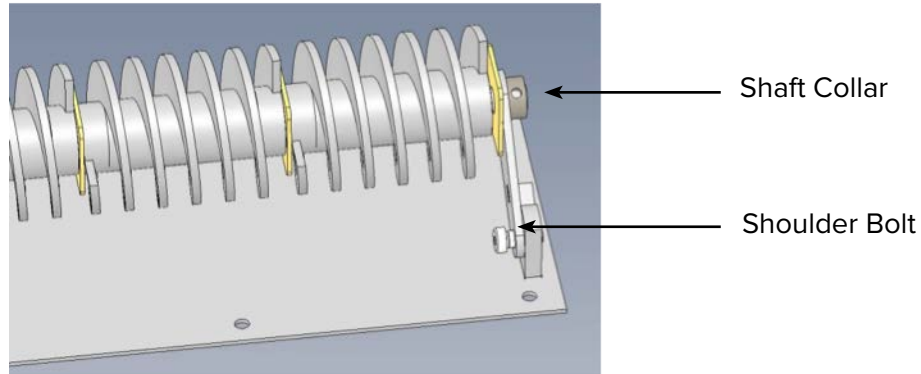

Figure 6 Bolt and Shaft Locations
3. Loosen set screw in shaft collar and remove brush arm (see Figure 6).